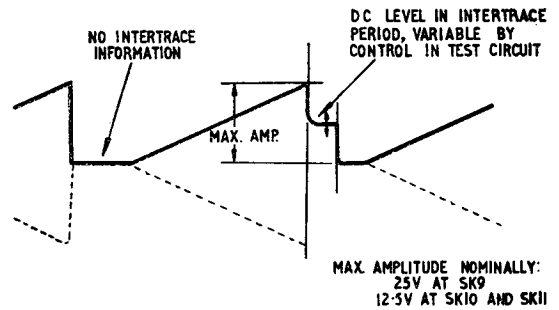

Fig. 15. Waveforms at SK9, 10 and 11 with I.T. level
- (1) Leave the same test conditions as for para. 117.
- (2) To simulate an inter-trace deflection level, improvise a source of DC voltage variable between $\pm 50V$, and connect to SK3. (The voltage from the second off-centring helipot, i.e., the one not feeding the amplifier under test, will serve for this purpose.)
- (3) Transfer the oscilloscope to monitor point SK9 and check that a waveform as fig. 15